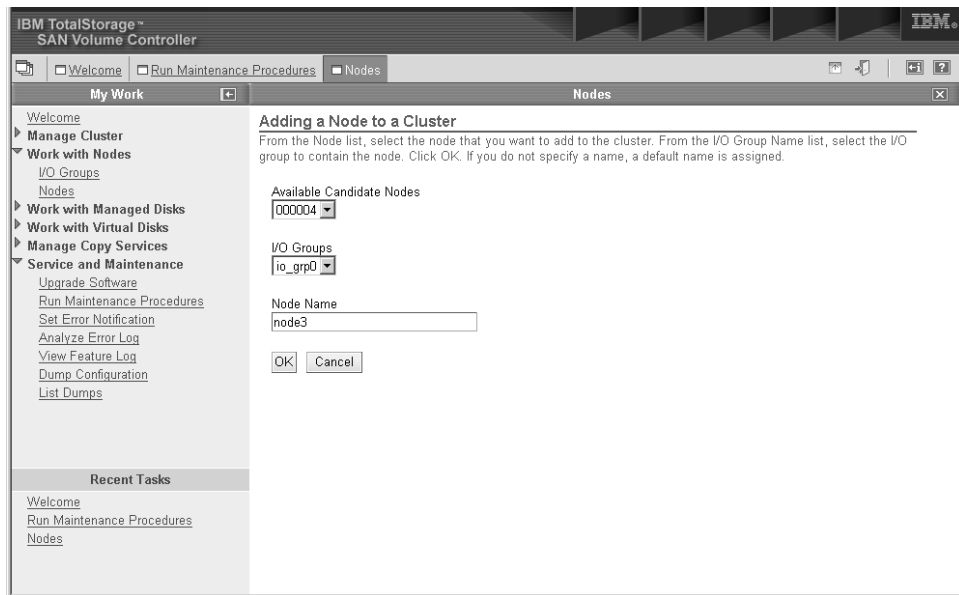

Figure 25. SAN Volume Controller Console Nodes panel
3. From the drop down menu, select the Add a node option and press the Go button. The following panel is displayed. See Figure 25.